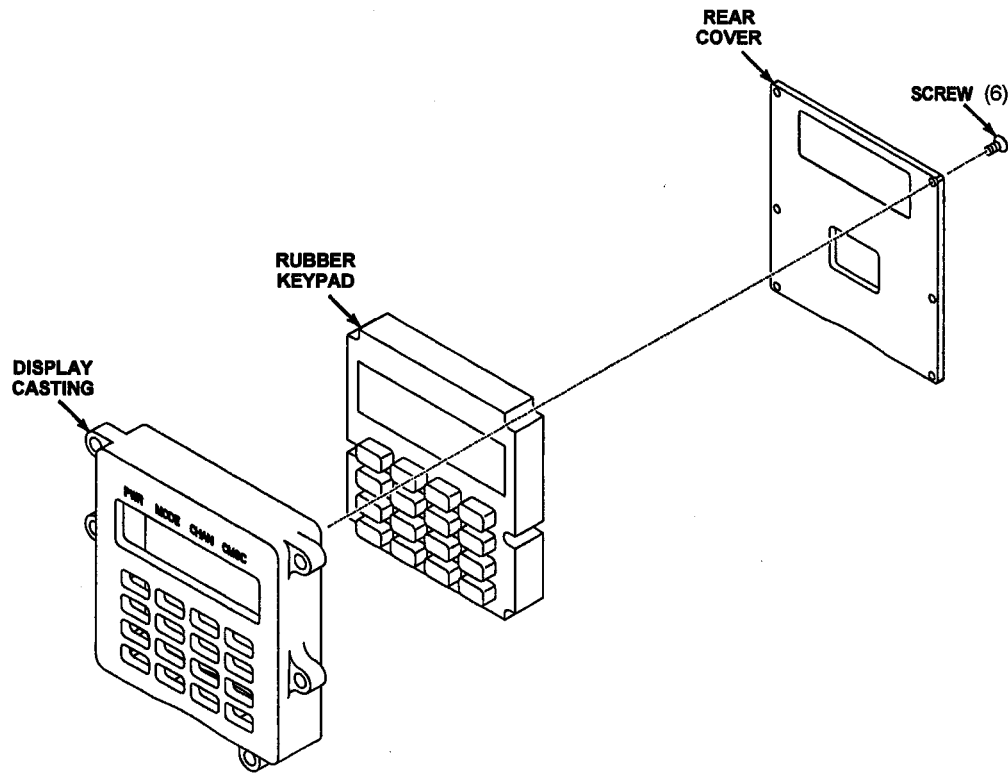

Figure 1. Modification Kit.
4. PREPARATION FOR INSTALLATION. Inspect the kit to verify that all items listed below and shown in figure 1 are included. Obtain the tools and material listed.